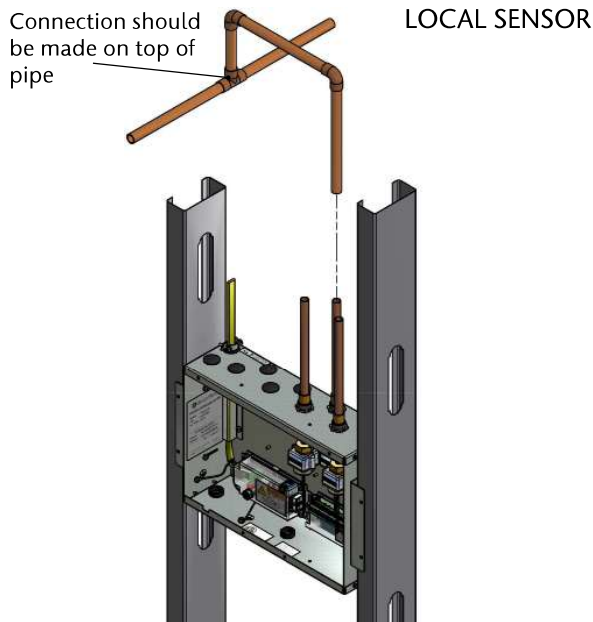

Figure 19: Sensor Pipeline Connection
3. Braze copper adapter tube(s) to appropriate pressure/vacuum piping system drops (Figure 19). Braze connections per procedures required by NFPA 99 or CAN/CSA-Z7396.1-12. Use appropriate measures to prevent overheating.